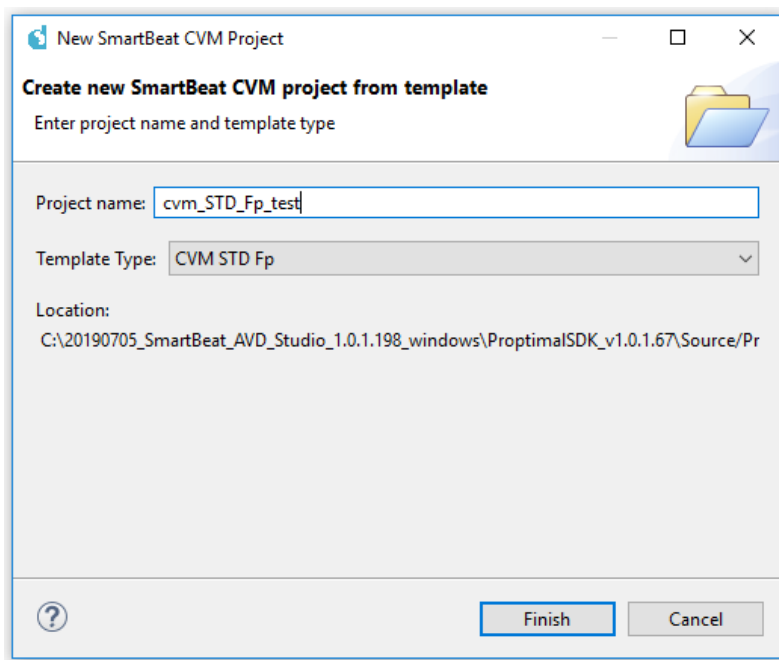

Figure 24: New Project Setup (Voice Conferencing stack)
4. Select the "CVM STD Fp" template, type and choose a name for the project (Figure 24).